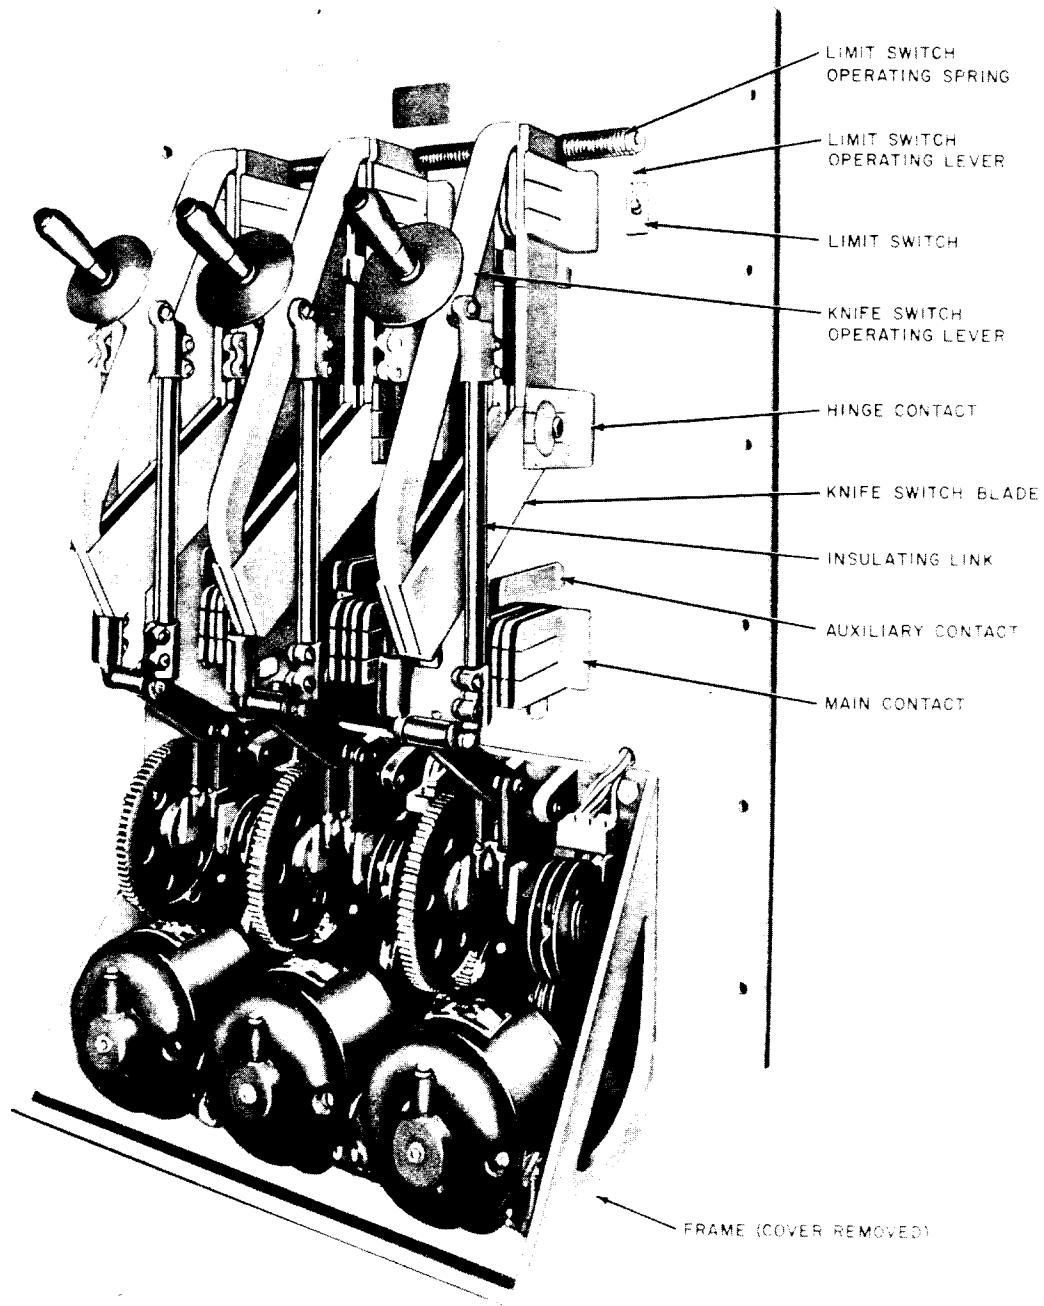

Fig. 1—KS-5502-Type Motor-Driven Switch
Fig. 1 and 2—The contact surfaces of the main contacts, auxiliary contacts, and knife switch blades shall be cleaned and then lubricated with a thin film of petrolatum every 6 months unless conditions are such that the interval may be extended.
2.03 Mounting of Knife Switch Contacts: Fig. 1 and 2—All knife switch contacts, including the knife switch hinge contacts, shall be securely fastened to the switch panel.
2.04 Condition of Knife Switch Blades and Contact Clips: Fig. 1 and 2
2.05 Engagement of Knife Switch Blades and Contact Clips: Fig. 1 and 2